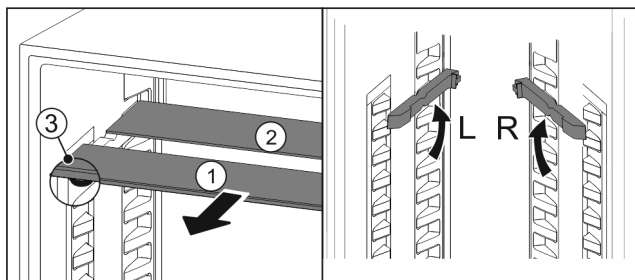

Fig. 105
- Pull the glass panels out Fig. 105 (1) from the front, one at a time.
- ▷ The glass panel Fig. 105 (1) and trim strip are at the front.
- ▷ The stops Fig. 105 (3) point down.